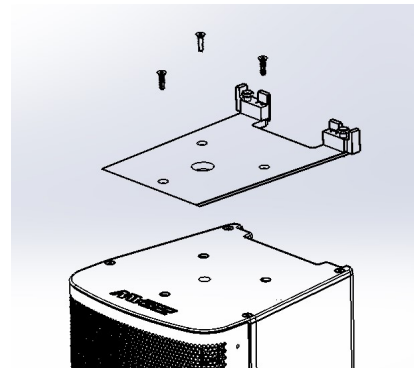

Figure 2 - Install Locking Plate
- Position Locking Plate over open holes, then use 3x screws (B) to secure plate to the cabinet (Figure 2)